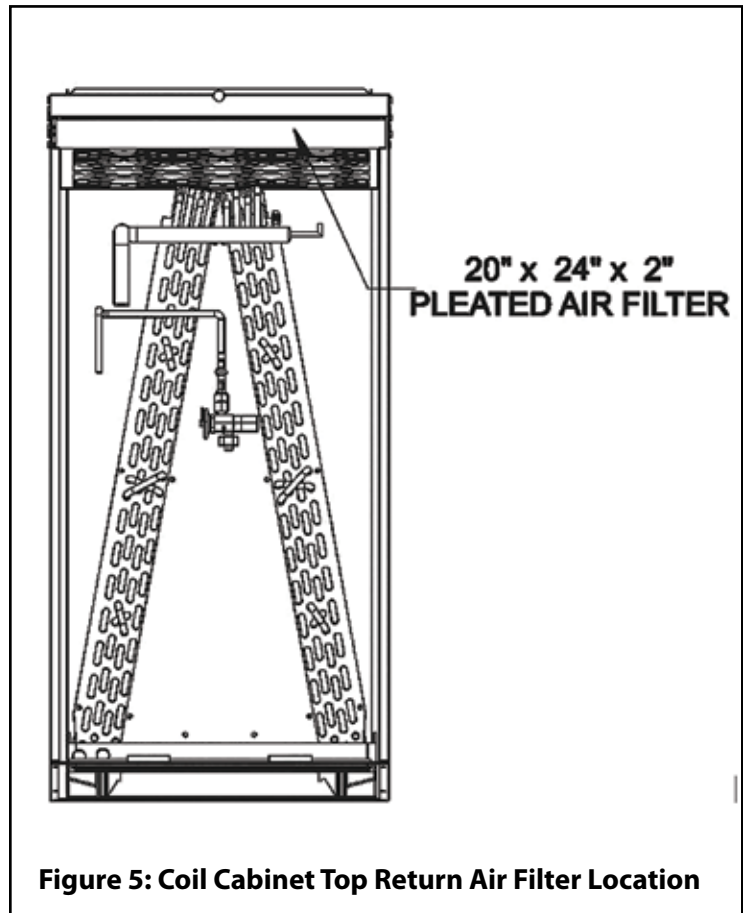

Figure 5: Coil Cabinet Top Return Air Filter Location
All appliances need maintenance at the beginning of each heating season in order to operate properly. The annual service must be preformed by qualified service personnel. The homeowner is expected to perform general cleaning of the exterior surfaces, clean dust from the louvers in the return air grille and replacement of the air filters. Air filters must be checked every month and replaced as needed. Homeowners/users must be instructed as to how to replace air filters for good preventive maintenance. Figures 2 and 3 show the location of the air filters for applications with a coil cabinet return air grille. Figure 5 shows the location of the air filter applications with a coil cabinet top filter.
5. Remove the air filter from the rack in the top of the coil cabinet (See Figure 5).